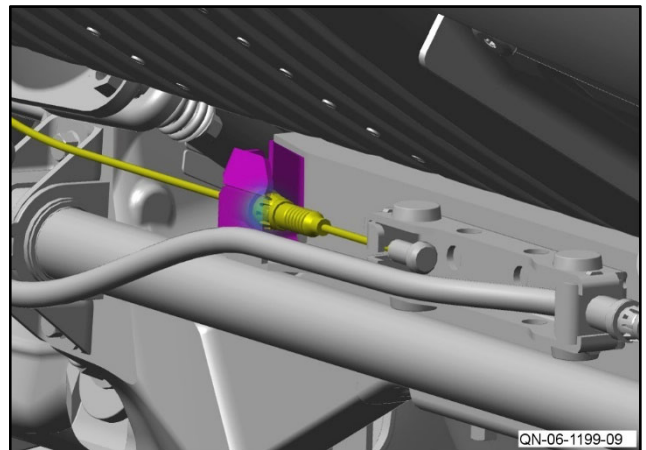

Figure 12
- 13** Install the park brake cable into the park brake bracket (refer to Figure 12).